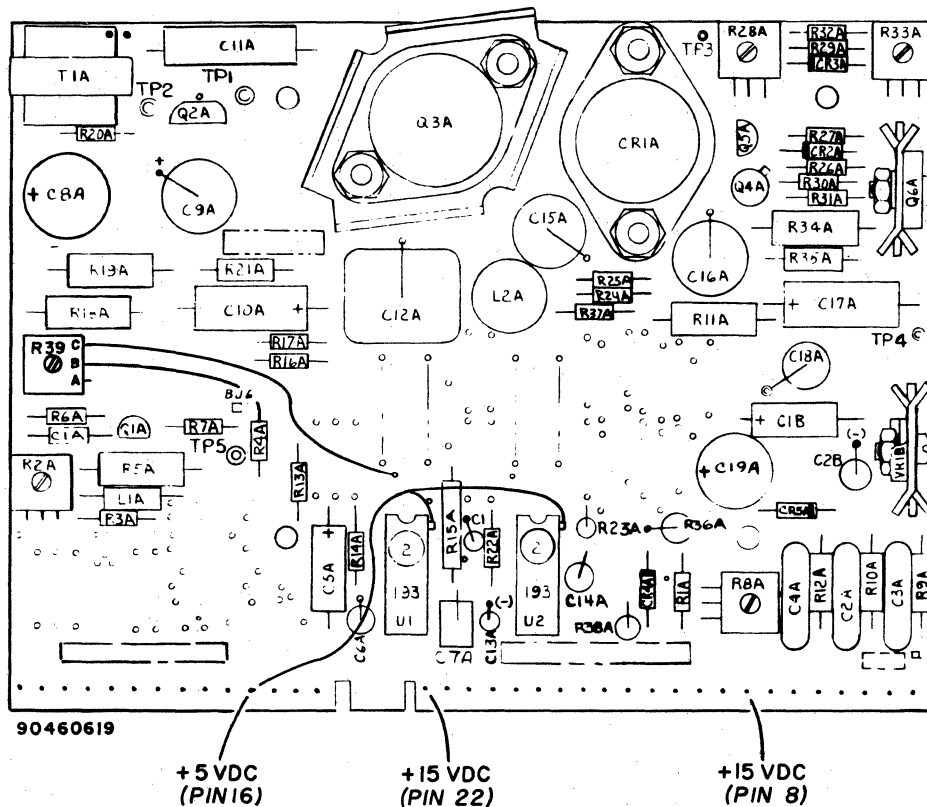

Figure CRT32. Test Pins for +5 and +15-Vdc
- 17) Connect red (+) lead to pin 8 of BJ4 (figure CRT32).
- 21) Connect red (+) lead to pin 16 of either IC as shown in figure CRT32.